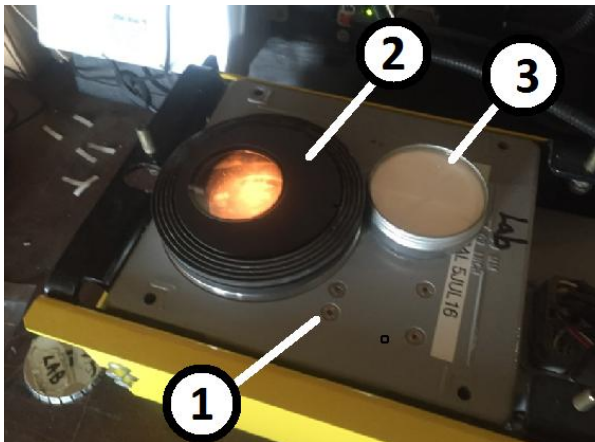

Figure 24. Component Identification
2. Place the reference over the lens. See Figures 24 and 25.